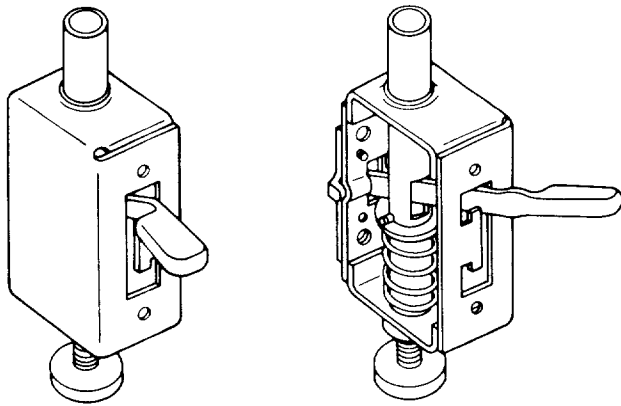

Fig. 20 - Left and Right Foot Assemblies
3. Separate all of the parts for the *foot assemblies* into two groups. There are two sets of identical parts. These will be put together into *left* and *right foot assemblies* which are mirror images of each other. (Figure 20)